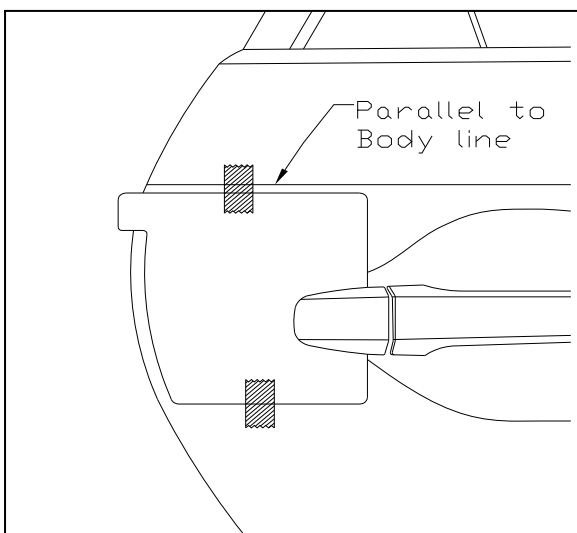

Fig. 1-2
- (c) Select rear door template and fit notch around door handle. Adjust as needed to ensure it is parallel to body line directly above the template. If needed, tape into place using painter's masking tape. (Fig 1-2)